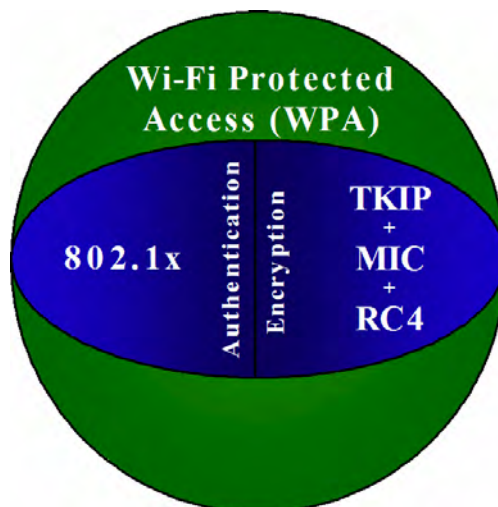

FIG. 72 WPA Overview
- To resolve problems with WEP, the Wi-Fi Alliance released WPA (FIG. 72) which integrated **802.1x**, **TKIP** and **MIC**. Within the WPA specifications the RC4 cipher engine was maintained from WEP. RC4 is widely used in SSL (Secure Socket Layer) to protect internet traffic.